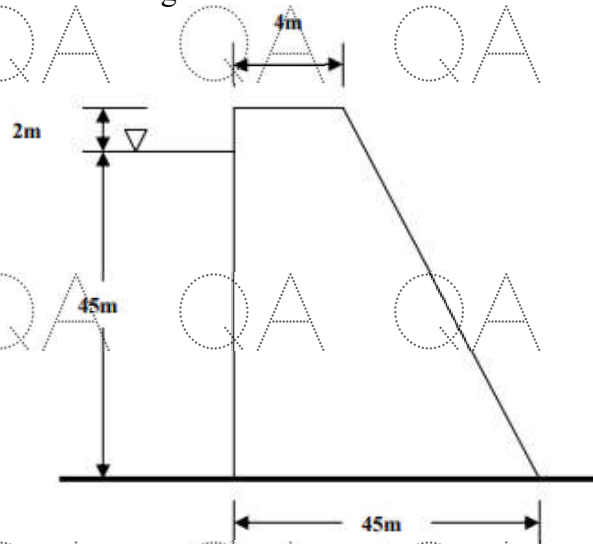

Figure 1
b) Determine the normal stresses at the heel and toe of the concrete dam using the simple flexure formula for solving the stress. Consider the weight of the dam, 2/3 hydrostatic uplift, and hydrostatic force on the face of the dam in your analysis. $\gamma_c = 23.5 \text{ kN/m}^3$. $\gamma_w = 10 \text{ kN/m}^3$. As Shown in Figure 1. [5+5]